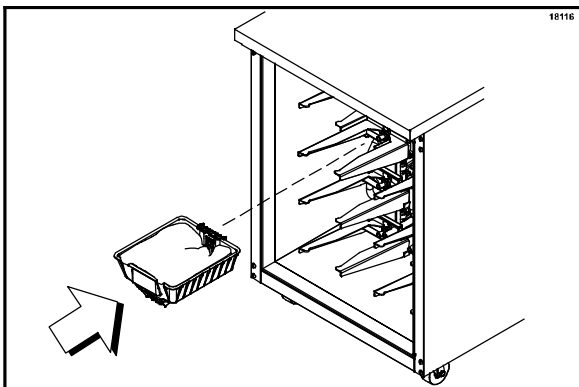

Figure 34
- Carefully place the product bin with the new product bag on the designated shelf in the refrigerated cabinet. Make sure the bag spout slides over the product tube. (See Figure 34.)